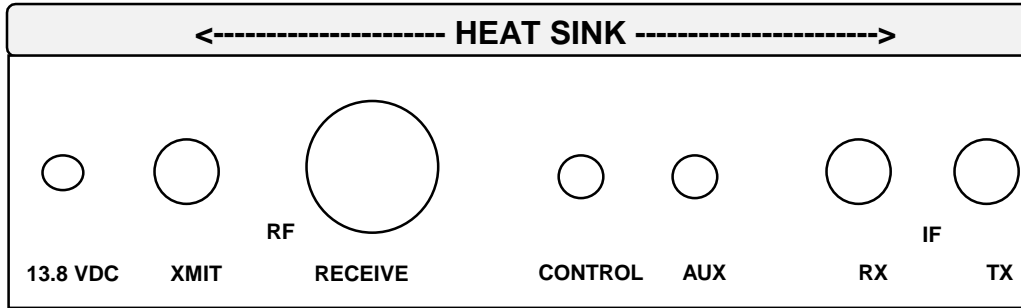

Figure 4 Jack Mounting Positions Outside View
Install all of the rear wall mounted connectors per Figure 4.
Connect the #26 Teflon (TTL or PTT) wire to the wall mounted RCA Control jack, then install a 1000 pF capacitor between the center pin and solder lug and solder. (See Figure 4 for jack location).
14. Attach the supplied jack / switch labels to the box by first cleaning the mounting surface with a multi-purpose household surface cleaner. Use figure 4 and 5 for placement location. If you need external switching for relays or power amplifiers this can be accomplished via Relay K1 and the RCA Auxiliary connector. Consult the DEM 50-28 supplied schematic for switching details.